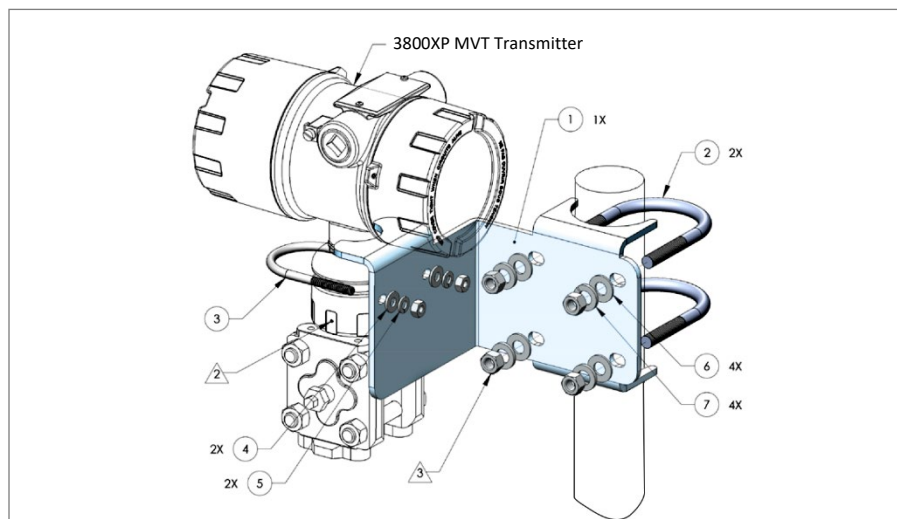

Fig 1: Components of Tek-Bar 3800XP Multivariable Transmitter (MVT)
The Tek-Bar 3800XP Multivariable Transmitter can be directly mounted to the orifice fitting or a 2" support pole. Please refer to the following instructions for mounting the enclosure onto a 2" pole and pole mounting (as shown in Figure 1).
- Facing the enclosure's front, use item 3 (Figure 1) to hold the enclosure against the bracket. Place flat and lock washers over the threads on item 3 (Figure 1) when facing the enclosure's rear and join with nuts.
- Loosen set screw as shown in figure 1 to adjust meter orientation, maximum 180° rotation from starting point.